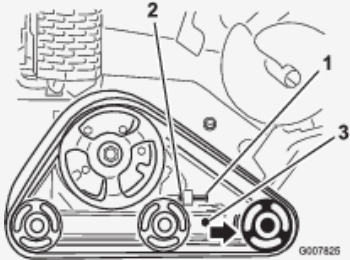

Figure 56
3. Loosen the jam nut on the track tensioning bolt and the clamp bolts on the tension arm (Figure 56).
4. Torque the tensioning bolt to 32.5 to 40 N·m (24 to 30 ft-lb) to tighten the track (Figure 56).
4. Back out the tensioning bolt and jam nut (Figure 56).
5. Loosen the clamp bolts (Figure 56).